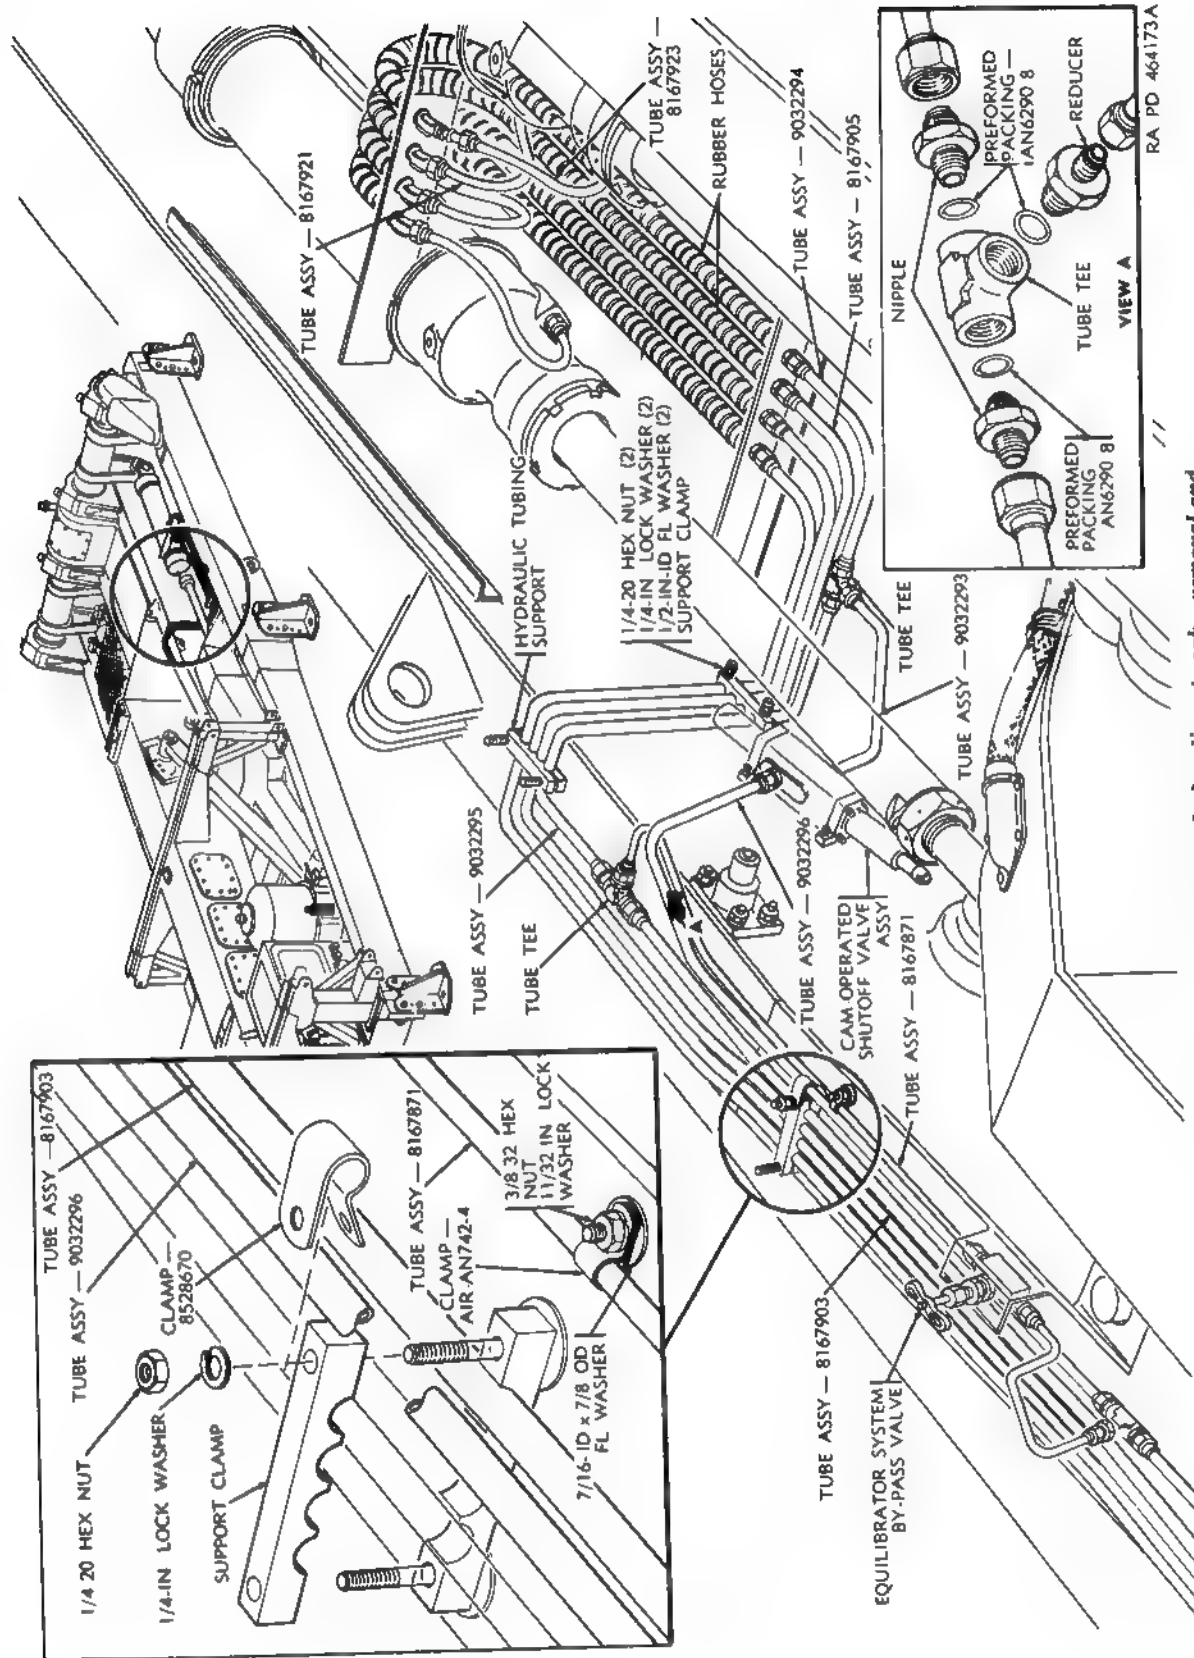

Figure 197. Equibrator system hydraulic network—removal and installation—continued.
- (4) Remove supports (fig. 196), support clamps (fig. 197), and hydraulic tubing supports securing tube assemblies to be replaced.